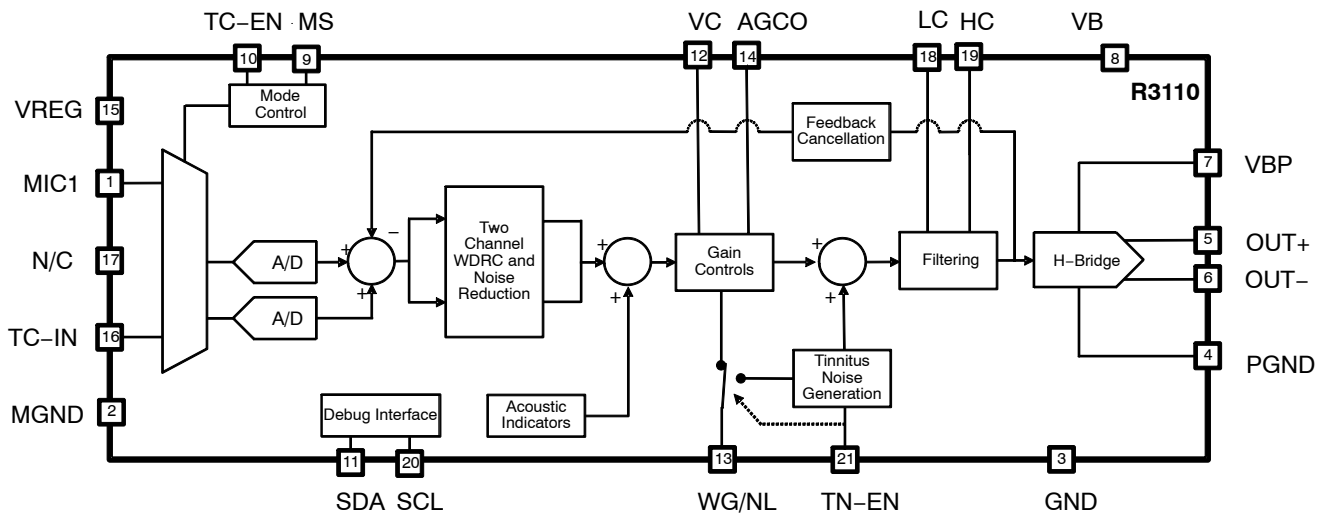
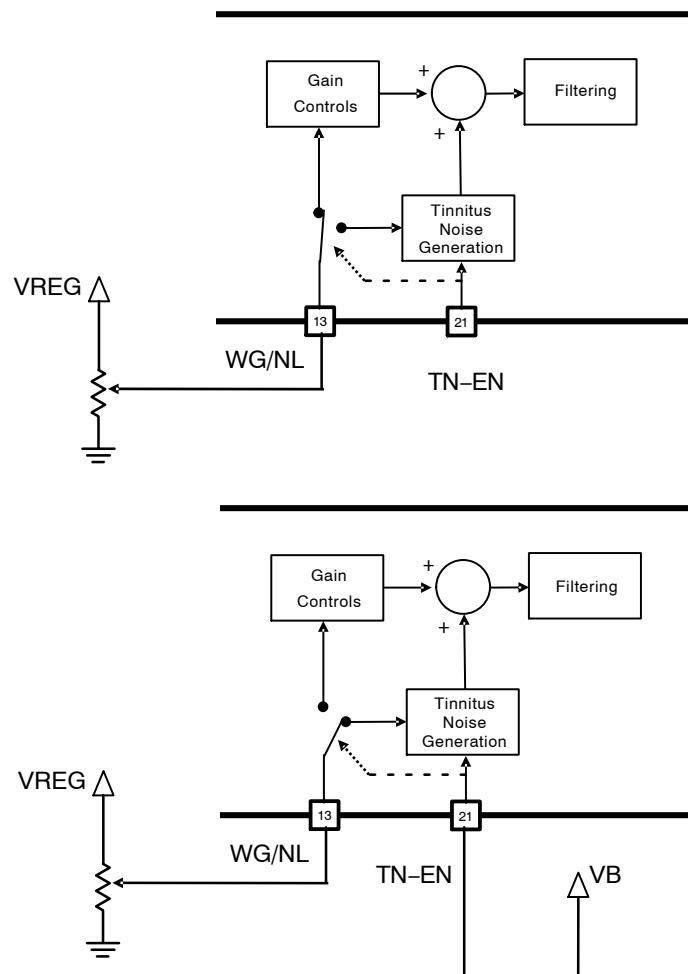

Figure 4. R3110 Block Diagram
Figure 9. The Two Different Uses of the TN-EN Pin: Top – Tinnitus Disabled, WG; Bottom – Tinnitus Enabled, NL
For an overview of the architecture of R3110, see Figure 4.
Two filters allow you to modify the frequency response of the device. The block diagram in Figure 4 shows the two filters within the filtering box. Two configuration pins (LC and HC) control the frequency shaping of the audio path just before it is returned to the analog world. More details on the usage of these pins can be found in "Configuration Options".
R3110 offers a dedicated pin to control the Tinnitus Treatment noise generation algorithm: TN-EN. This pin has an internal pull-down resistor to ground (GND), which disables the algorithm by default. When activated (pulled to VB), Tinnitus Treatment is generated by deploying amplitude scaled white noise, depending on adjustments made via pin WB/NL. When the TN-EN pin is set high (connected to VB), to enable the tinnitus algorithm, the WB/NL pin controls the generated noise level (NL) as per Table 1. The noise is injected into the audio path, as shown on the block diagram in Figure 4, and the entire audio signal is shaped using the internal filters controlled by the LC and HC pins. The VC pin, and consequently the amount of attenuation that it selects, only affects the audio signal and not the tinnitus noise level. The tinnitus mode can be used in conjunction with either microphones or telecoil modes, with the exception that the wideband gain cannot be controlled by the WG/NL pin anymore; in this configuration it controls the tinnitus noise level instead. In this case, the wideband gain has a fixed value of 0 dB. Figure 9 shows the two usages of the TN-EN pin.
Figure 4 shows the signal path and the relative position of these filtering and amplification blocks in the audio path.